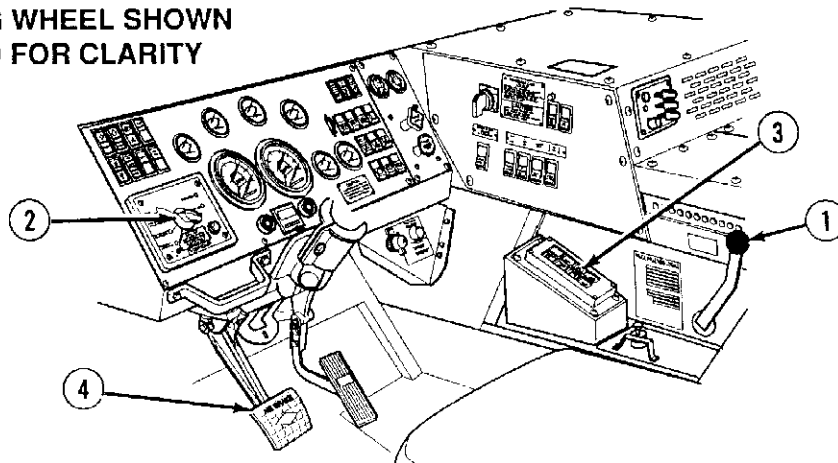

Figure 12. 21 Transmission Controls
- 12.8.1.7 Set the TRANSFER CASE shift lever (Figure 12. 21. (1)) to **LO**.
- 12.8.1.8 Set the CTIS rotary selector switch (Figure 12. 21. (2)) to desired position.
- 12.8.1.9 Set the transmission range selector (Figure 12. 21. (3)) to 1.